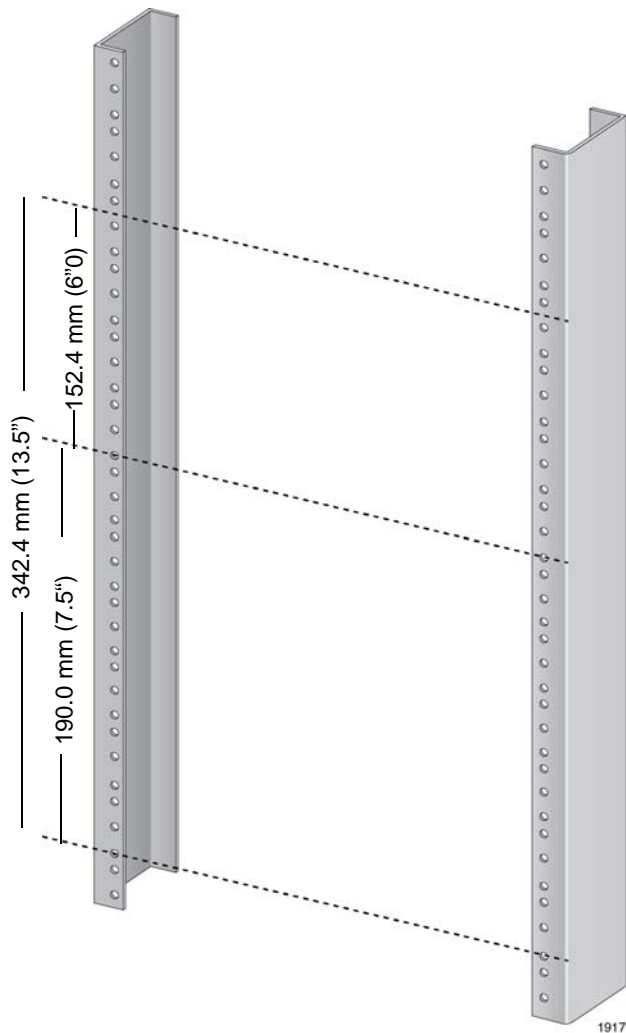

Figure 35. Reserving Vertical Rack Space
1. Reserve 190.0 mm (7.5”) of vertical rack space for the installation of the AT-SBx3106 Chassis, as shown in Figure 35 on page 94.